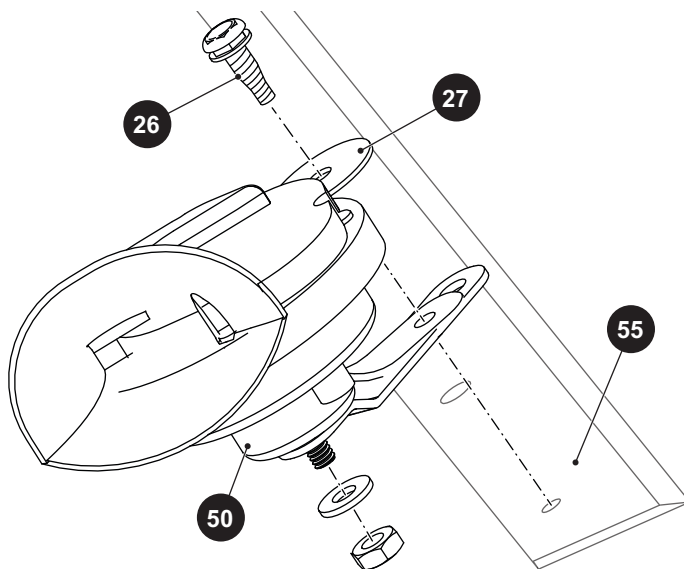

Figure 13 Horn
3. Remove the push on electrical connectors from the horn (50) (Ref. Figure 13).
4. Remove the bolt (26) and washer (27) securing the horn to the fascia (55) and frame.